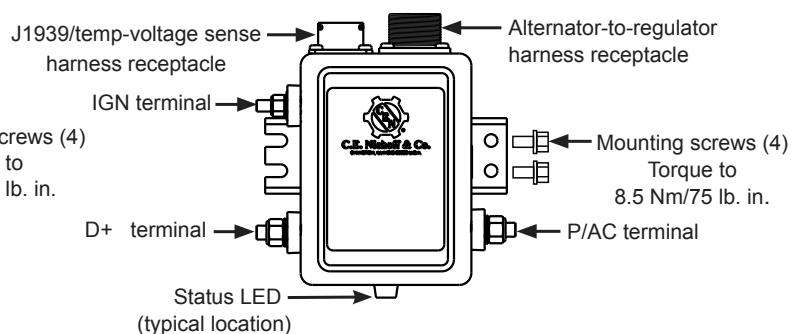

Figure 6: Smart Regulator Connections
5. If using a J1939/temperature-voltage sense harness, plug it into J1939/sense harness connector on regulator. See Figure 6 for regulator connector location. Refer to installation instructions included with harness for more information. Harness sold separately².